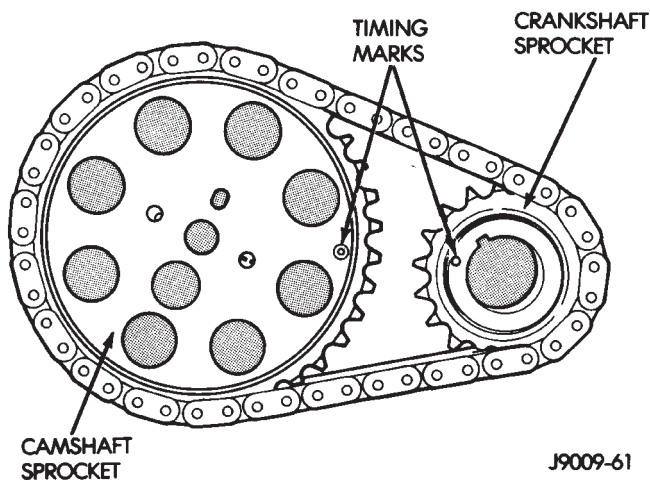

Fig. 10 Timing Chain Alignment—Typical
- (7) Remove the serpentine drive belt.
- (8) Remove the crankshaft vibration damper.
- (9) Remove the timing case cover. Clean the gasket material from the cover.
- (10) Remove the thrust pin and tension spring from the preload bolt head.
- (11) Rotate crankshaft until the crankshaft sprocket timing mark is closest to and on the center line with the camshaft sprocket timing mark (Fig. 10).
- (1) Clean the camshaft pin hole.
- (2) Compress the center of the replacement spring pin with vise grips.
- (3) Carefully drive the pin into the camshaft pin hole until it is seated.
- (4) Install the camshaft sprocket, crankshaft sprocket and timing chain with the timing marks aligned (Fig. 10).